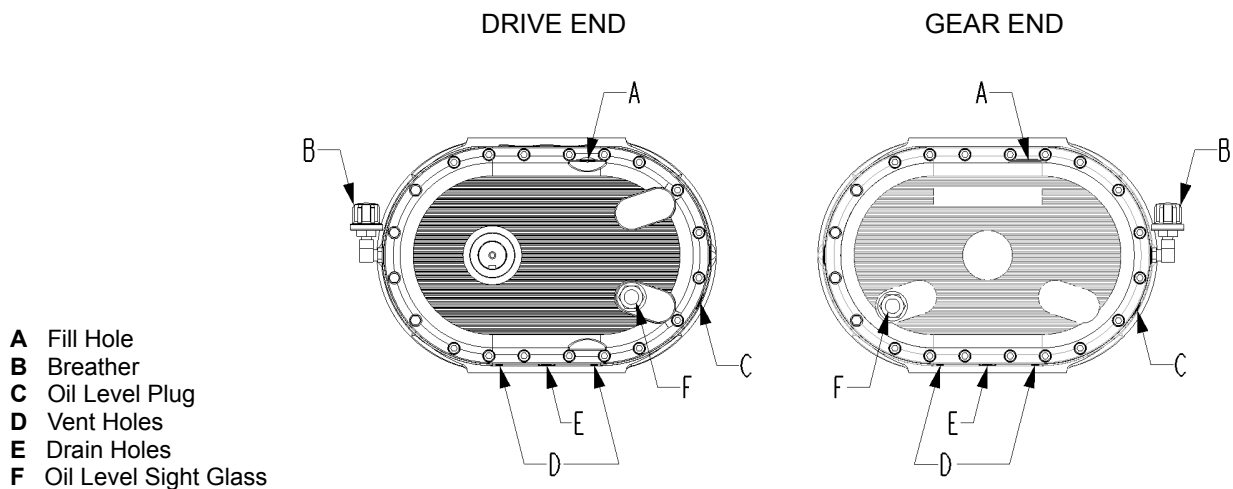

Figure 7-7: Blower key features
- b. Remove the level plug (**Figure 7-7 C**) in each reservoir or check the sight glass (**Figure 7-7 F**). Oil should just fill the threads of the level plug hole, or register a quarter of the sight glass.
- d. Install and tighten level plug (**Figure 7-7 C**).
- a. Place a collection pan or pail under each drain plug (**Figure 7-7 E**).
- b. Remove each drain plug (**Figure 7-7 E**).
- e. Install and tighten drain plugs (**Figure 7-7 E**).
- f. Remove fill (**Figure 7-7 A**) and level (**Figure 7-7 C**) plugs.
- g. Add Walinga Super Duty blower oil (part number 98-13813-6) to each reservoir until the oil is just starting to come out of level plug hole (**Figure 7-7 C**). Refer to **Table 7-6** in the *Maintenance Materials* section for the total blower oil capacity.
- h. Install and tighten level (**Figure 7-7 C**) and fill (**Figure 7-7 A**) plugs.
1. Remove the breathers (**Figure 7-7 B**), and blow the breathers out with an air hose.
4. Clean the vents (**Figure 7-7 D**) in the end plates.